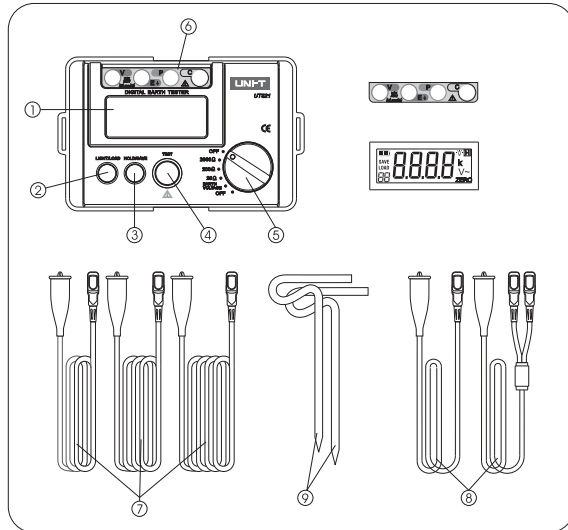

figure 1
4. Product outlook & accessories:(figure 1)